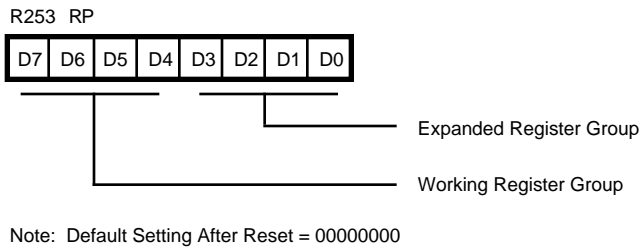

Figure 17. Register Pointer Register
**Expanded Register File.** The register file has been expanded to allow for additional system control registers and for mapping of additional peripheral devices and input/output ports into the register address area. The Z8 register address space R0 through R15 is implemented as 16 groups of 16 registers per group (Figure 16). These register banks are known as the Expanded Register File (ERF). Bits 3-0 of the Register Pointer (RP) select the active ERF bank. Bits 7-4 of register RP select the working register group (Figure 17). Four system configuration registers reside in the ERF address space in Bank F and eight registers reside in Bank C. The rest of the ERF addressing space is not physically implemented, and is open for future expansion.